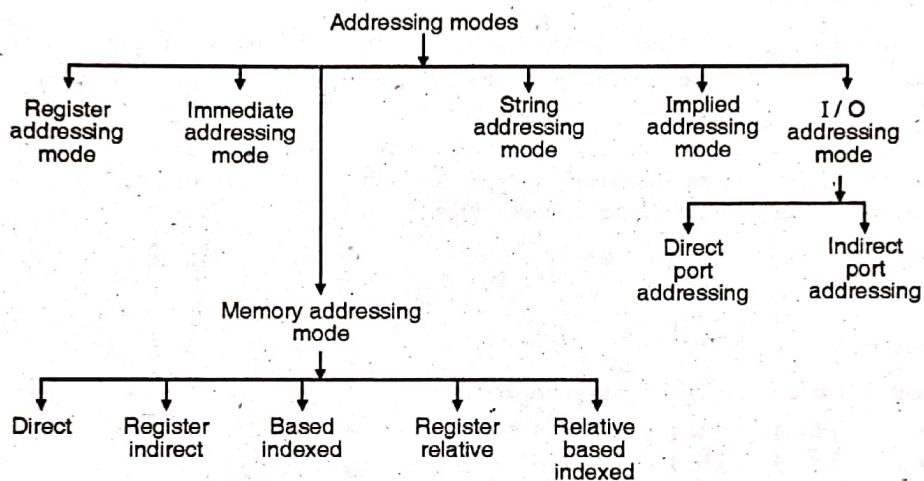

Fig. 1- Q. 6(b) : Addressing modes of 8086
- Fig. 1-Q. 6(b) shows the classification of addressing modes of 8086.